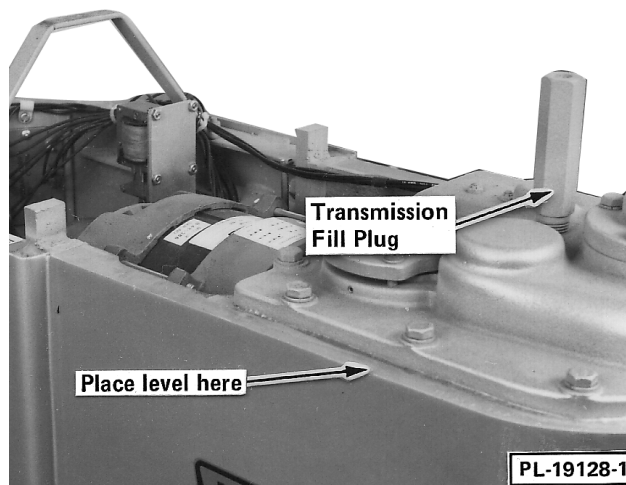

Fig. 1
- Place a level on the machined surface of the transmission case (Fig. 1) and slide shims under the legs (base) of the mixer as required to level it front-to-back and side-to-side.